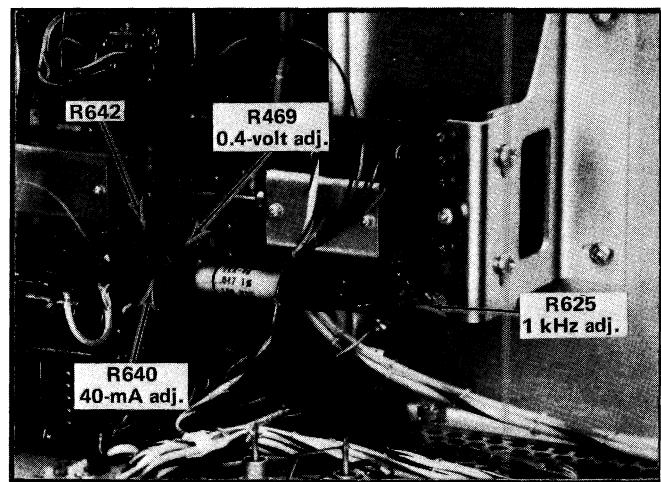

Fig. 5-13. Location of controls and R642 on the Calibrator board.
- f. ADJUST—R649 (see Fig. 5-13) for a meter reading of exactly 0.4 volt DC with the CALIBRATOR VOLTS set to 0.4 V.
- k. ADJUST—1 kHz adjustment R625 (see Fig. 5-13) for minimum drift or no drift of the time markers.
- Connect the precision DC voltmeter across R642 (see Fig. 5-13).
- ADJUST—40 mA adjustment R640 (see Fig. 5-13) for a reading on the precision voltmeter of 30.64 volts.